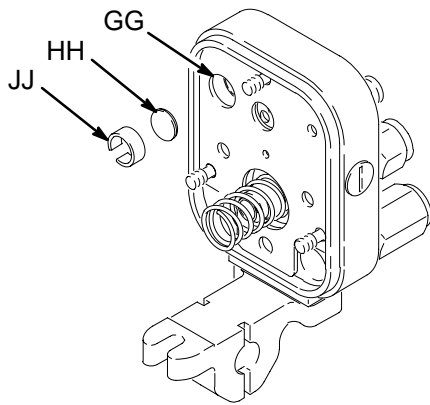

Fig. 10
2. Make sure the lens (HH) is clean. Push the lens into the counterbore (KK) in the manifold fiber optic port (GG). See Fig. 10 and 11.
3. Press the lens retainer (JJ) into the manifold fiber optic port (GG) until it is flush with the manifold surface.